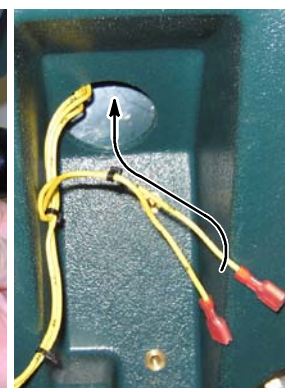

**Fig. 4**
4. Remove the charger plug wire harness assembly from the squeegee lift bracket (Fig. 4).
8. Connect the kit wire harness terminals as shown and replace control console panel (Fig. 4).